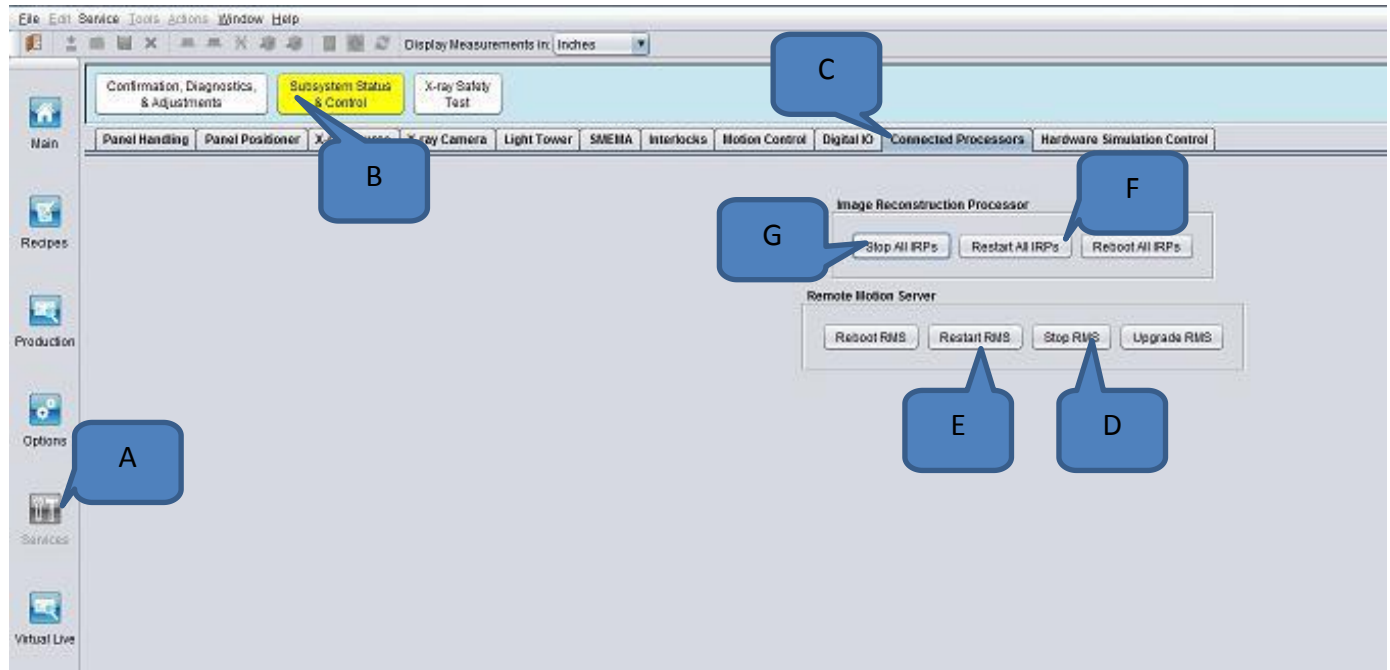

Figure 25
33. At the V810 GUI, go to Connected Processor, click Stop all IRPs and Restart all IRPs as Figure 25.